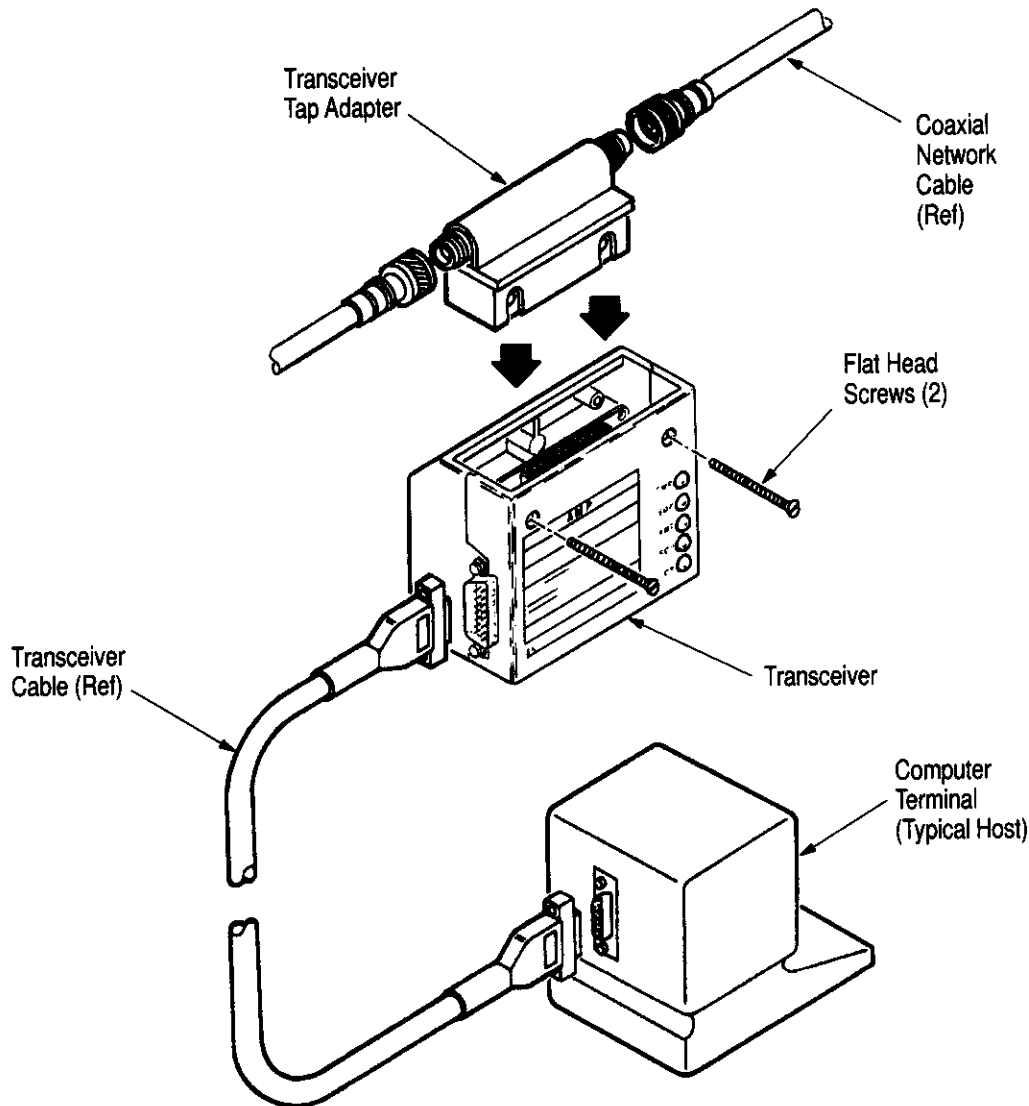

Figure 2
1. Remove the flat head screws from the transceiver case. Refer to Figure 2.